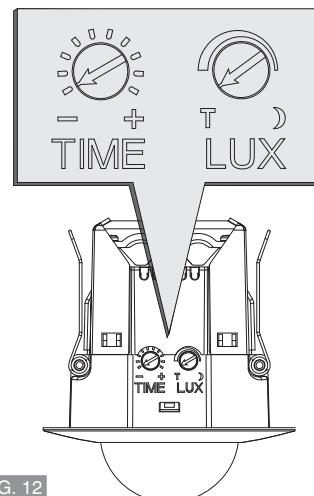

FIG. 12
- Turn the **TIME** control and the **LUX** control counter-clockwise to the edge-the **TEST** position (fig. 12).